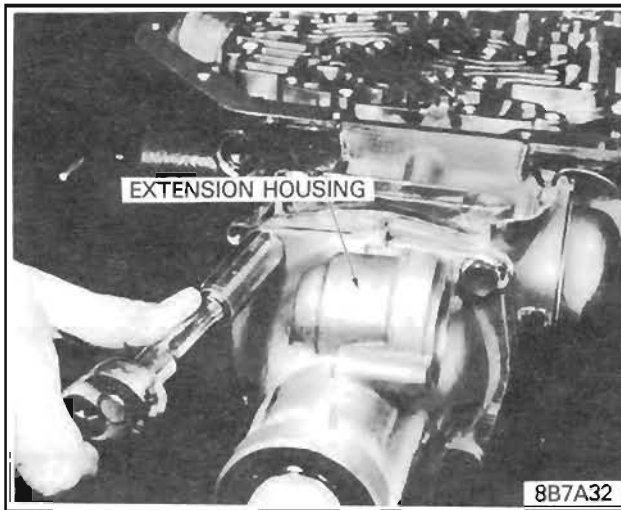

Figure 17 Extension Housing
6. Remove bolts retainer and speedometer driven gear from side of extension housing and remove four (4) extension housing to case attaching bolts. See Figure 17